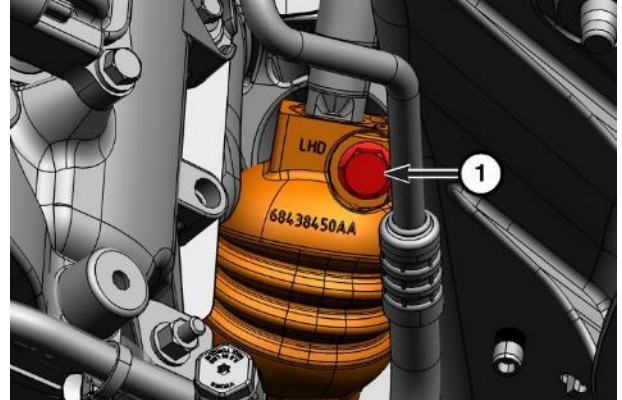

Figure 34 – U-Joint Coupling Upper Bolt
10. Ensure the I-Shaft is fully inserted into the U-joint coupling so that stop is resting against the white plastic clip (Figure 34).
11. Obtain a **NEW** pinch bolt and install it to the U-joint coupling upper hole (1) then tighten the bolt to 45 N·m (33 Ft. Lbs.) (Figure 34).